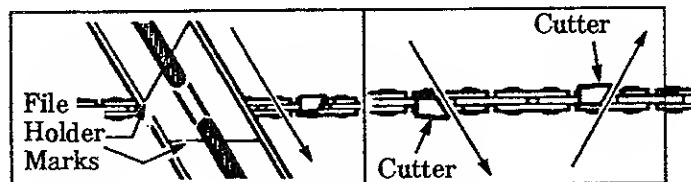

Figure 26
- b.) Align the 25° file holder marks with the bar and parallel to the center of the chain. Figures 26 & 28.